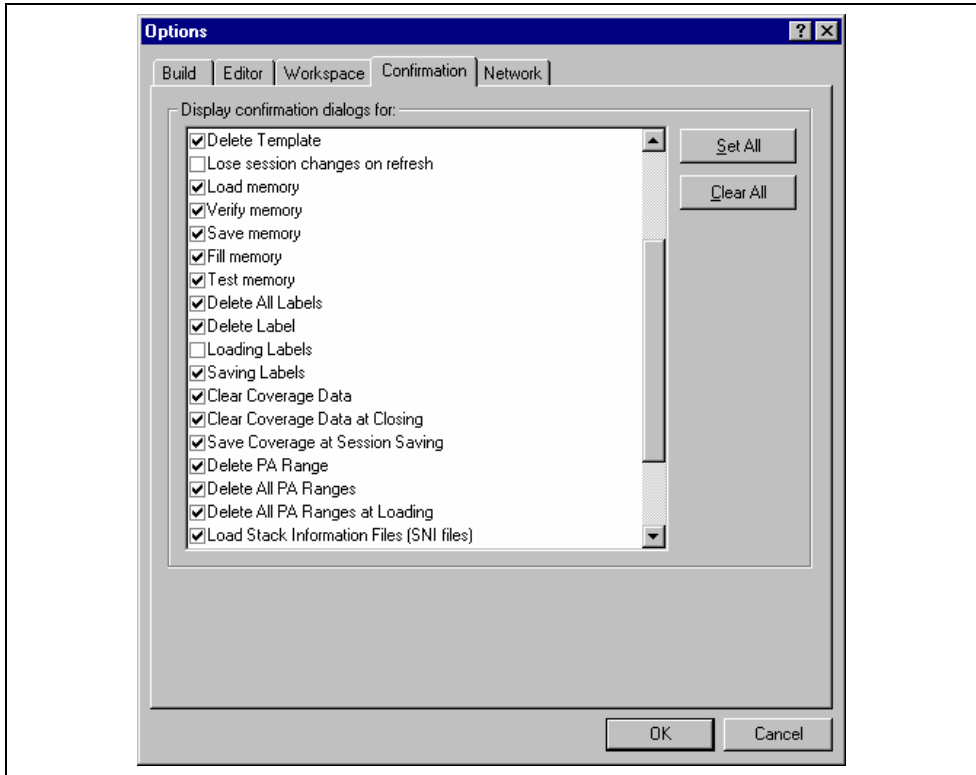

Figure 4.66 Options Dialog Box
- The [Load Stack Information Files (SNI files)] check box is checked in the [Confirmation] sheet of the [Options] dialog box (figure 4.66) that can be opened by choosing [Tools->Options] from the main menu.